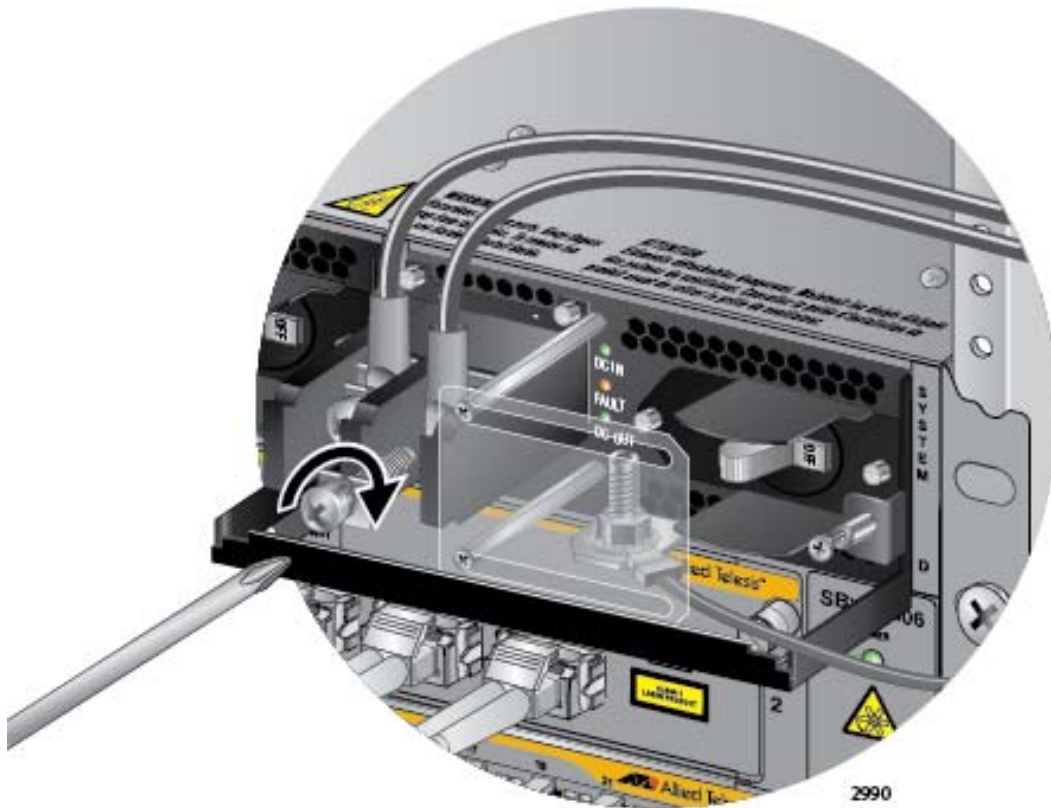

Figure 129. Connecting the Negative (-) Power Wire with a Straight Terminal
7. With a #3 Phillips-head screwdriver, connect the negative (-) power lead wire to the negative terminal on the power supply, with the remaining terminal screw removed in step 5. The negative terminal is on the right. You may attach the terminals with the wires either above or below the terminal block. Figure 129 on page 196 shows the wires above the terminal block.